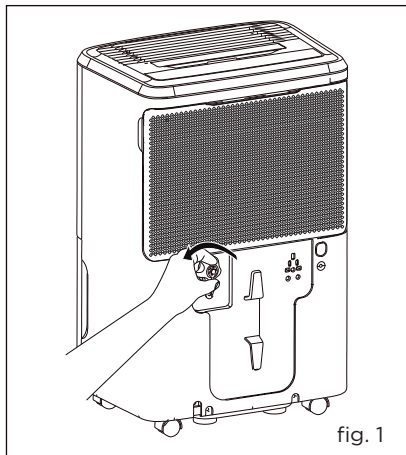

fig. 1
- b. Unscrew the drain cap on the back side of the unit. (fig.1)